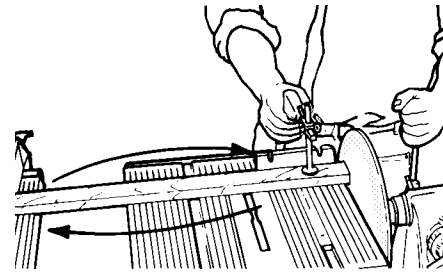

Figure C-20
3. Squeeze the safety grip with one hand, then turn on and adjust the Mark V speed. Feed the disc forward with the quill until it just contacts the stock. Back it off, then advance it again. Don't extend the quill all the way at this time, just sand until the end is smooth. Then, turn the stock and sand the other end. This time, advance the disc until the depth control stops it. See Figure C-20. Repeat this procedure as needed with the other boards you need to sand. When finished, they will all be exactly the same length.